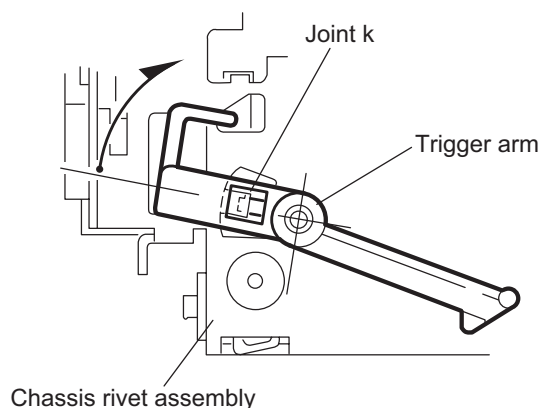

Fig.19
2.2.9 Removing the trigger arm (See Figs.19 and 20)